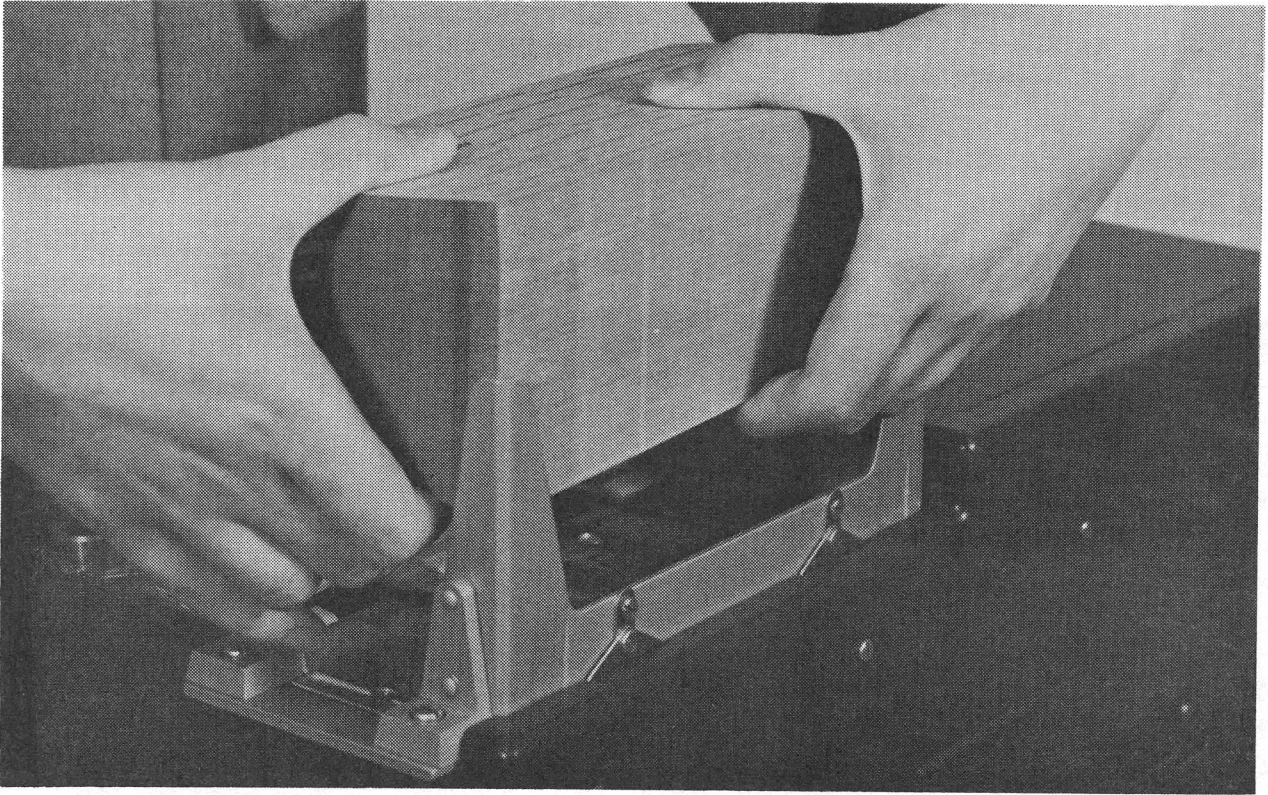

Figure A-5. Transferring Aligned Deck to Reader Hopper
- 2) Using both hands as shown in Figure A-5, transfer the squared deck to the reader hopper without destroying the alignment. The proper card position is face down with the nine edge (bottom) toward the rear of the reader.